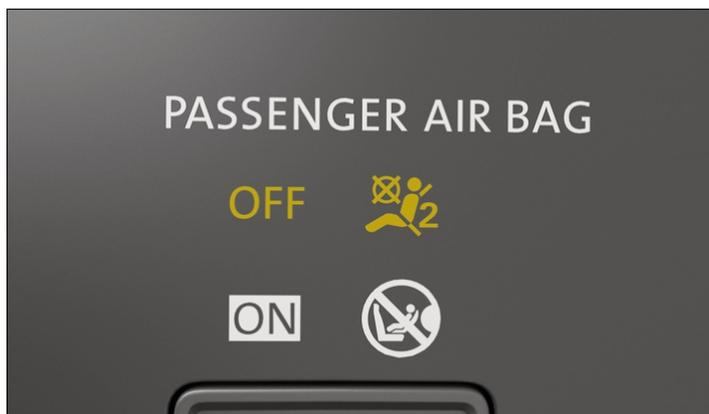

Fig. 1 In the center console: indicator light for the deactivated passenger front airbag.
**OFF**  Front passenger's airbag disabled. The yellow indicator light in the center console stays on → *fig. 1*.